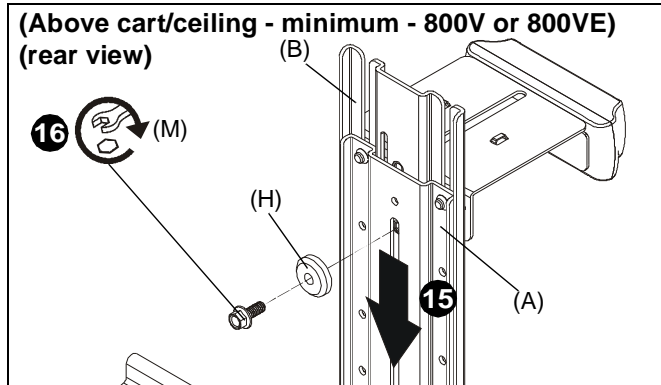

Figure 31
15. (For **minimum extension**) Slide upright bracket (A) behind main bracket (B). (See Figure 31)
16. (For **minimum extension - 800V or VE**) Use 1/4-20 x 5/8" hex head flange bolt (M) and center washer (H) to secure upright bracket (A) to main bracket (B). (See Figure 31)